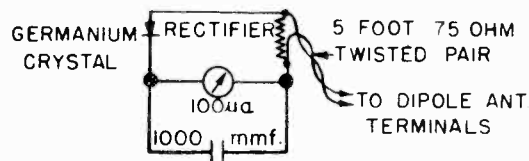

FIGURE 1
2. Field Strength Meter (Fig. 1). This meter may consist of a D.C. 100 microampere (full scale) meter, shunted by a 1000 mmf. mica by-pass condenser; a germanium crystal rectifier connected in series with the meter and a five foot, 75 ohm twisted pair of leads. Shunt the meter end of the leads with a 75 ohm carbon resistor. The open ends of the leads are connected to the F.M. dipole antenna terminals. Connect the condenser directly across meter terminals, and the crystal directly to one terminal of meter. Keep connecting leads as short as possible.